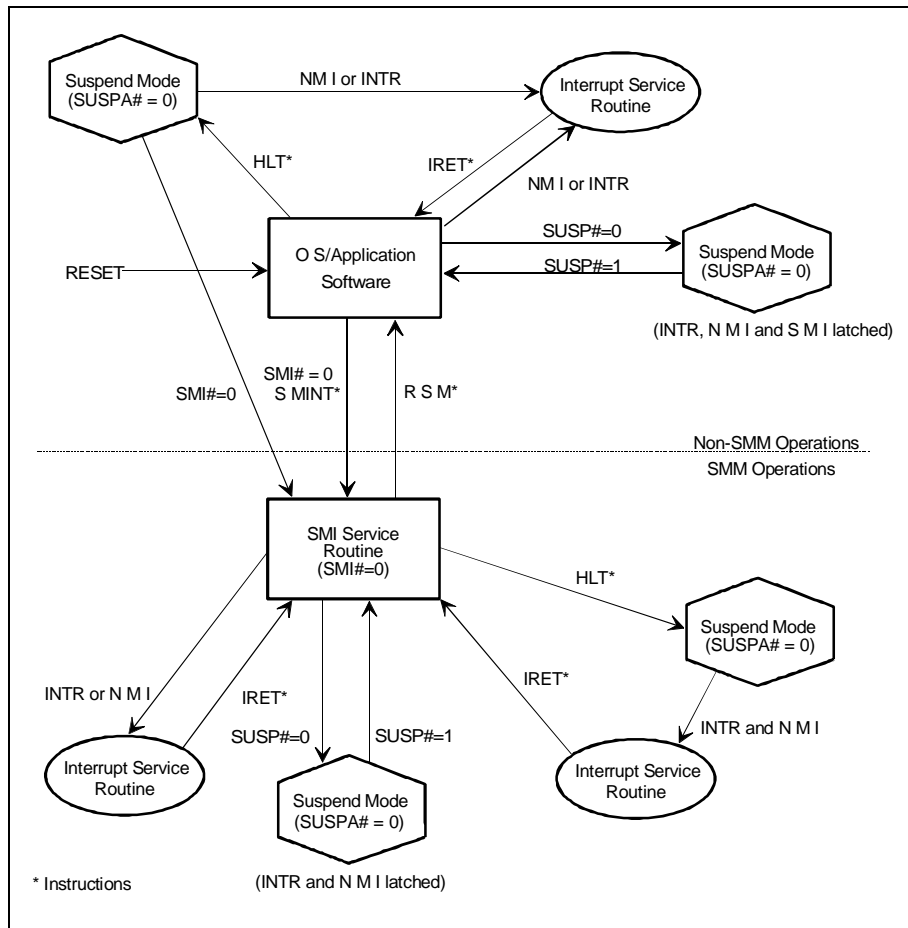

Figure 2-40. SMM and Suspend Mode State Diagram
The state diagram shown in Figure 2-40 (Page 2-70) illustrates the various CPU states associated with SMM and suspend mode. While in the SMI service routine, the IBM 6x86 CPU can enter suspend mode either by (1) executing a halt (HLT) instruction or (2) by asserting the SUSP# input.